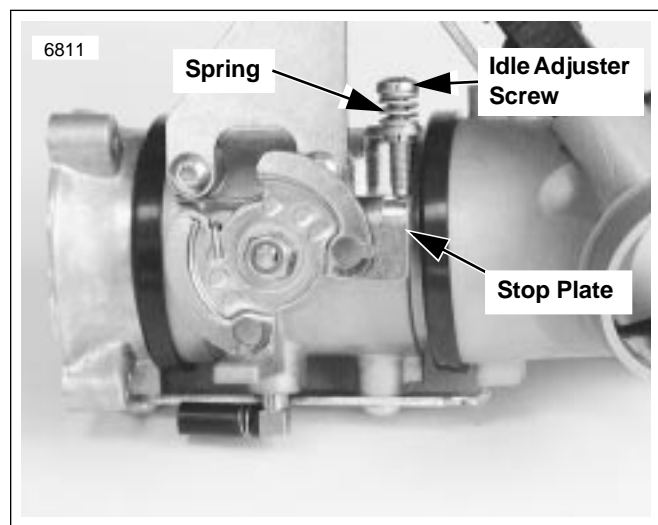

Figure 2. Idle Adjuster Screw
2. See Figure 2. Remove idle adjuster screw and spring from throttle body bracket/stop plate.